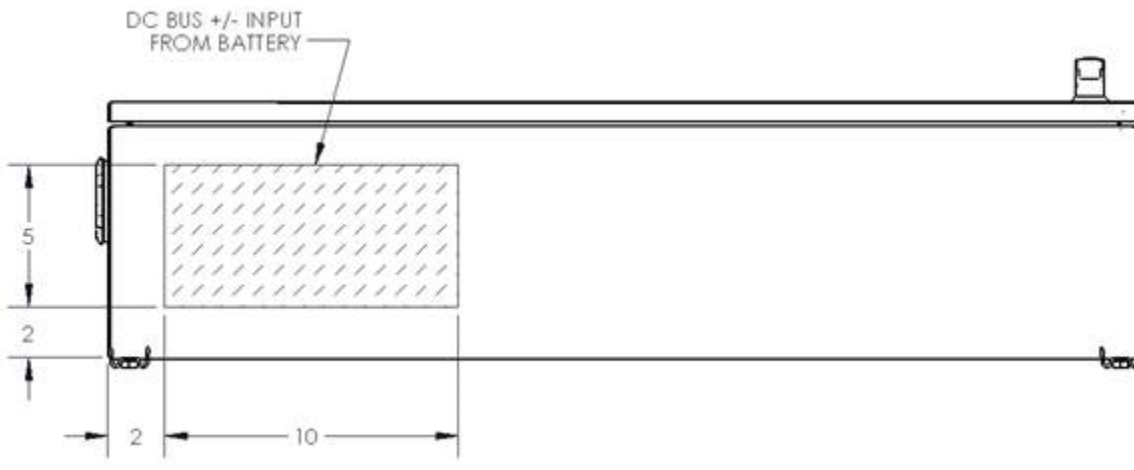

Figure 3-9: Bottom face of the De-Combiner, showing the area for conduit connections for the Battery Subsystem.
1. Note the target area for conduit connections for the Battery Subsystem conductors on the bottom face of the De-Combiner, as shown in Figure 3-9.